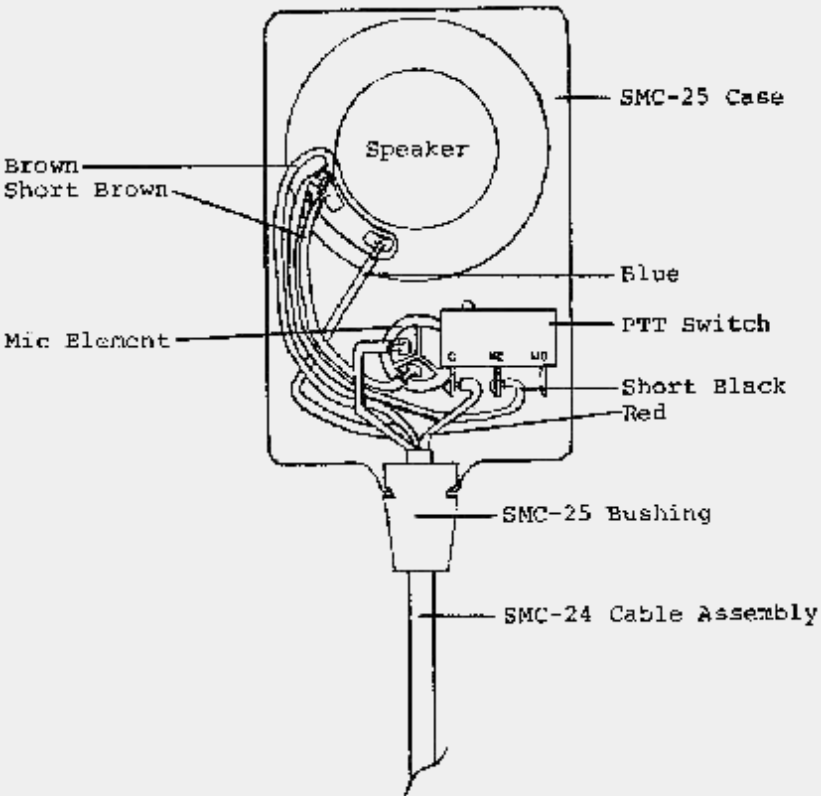

Figure 2
2. Run a strip of cloth tape (nol vinyl tape) approximately ½ inch wide, across the top edge of the Display unit directly under the volume control. This will prevent the control using from intermittently touching the PCB and causing loss of offset functions. In similar manner, add insulation as shown at "B" and "C". (Fig.2)